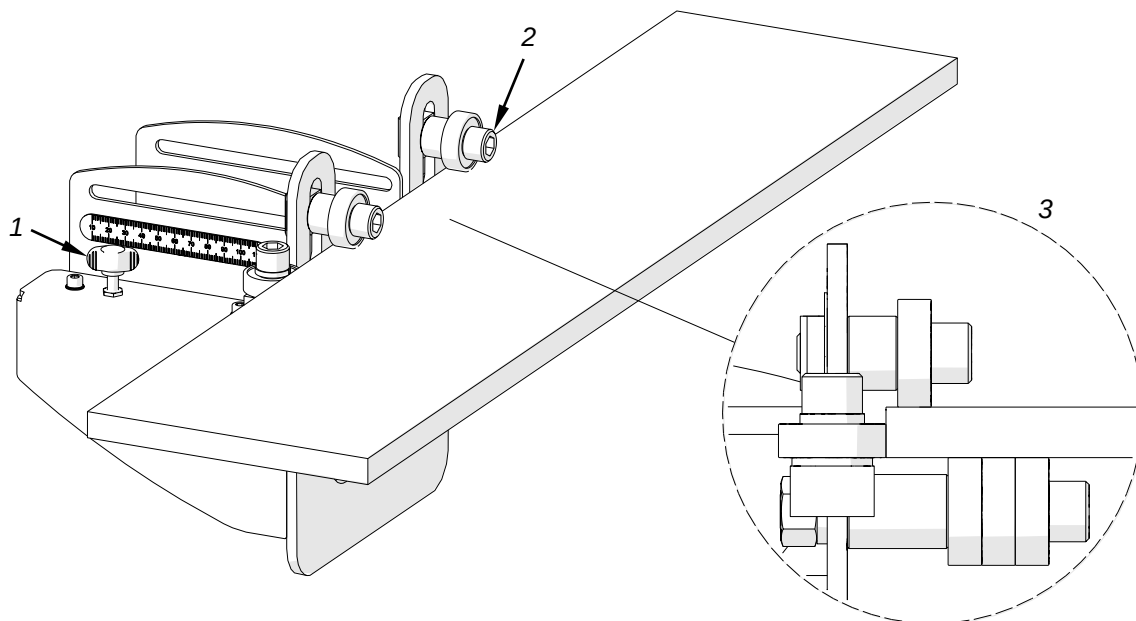

Fig. 17. Mounting the guide on the plate
Loosen the wing screws (1, Fig. 17) fully and use the 10 mm hex wrench to loosen the upper bearings 2. Next, position the guide on the plate in such a way to bring the lower, upper, and side bearings in close contact with the plate (3). Tighten the upper bearings in this position.